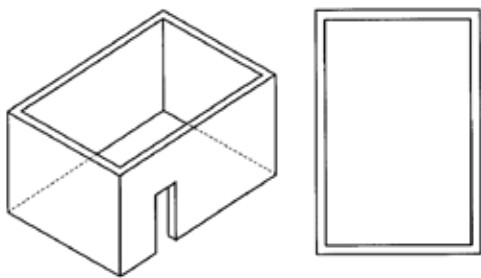

Figure 1. Enclosure with walls on all sides but no overhead cover.
- ▶ An enclosure with walls on all sides, but at least one permanent opening at ground level and no overhead cover. See Figure 1.